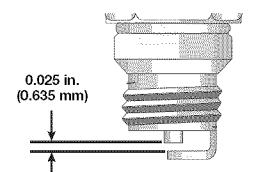

Fig. 27
3. Replace a cracked, fouled or dirty spark plug. Set the air gap at 0.025 in. (0.635 mm) using a feeler gauge (Fig. 27).